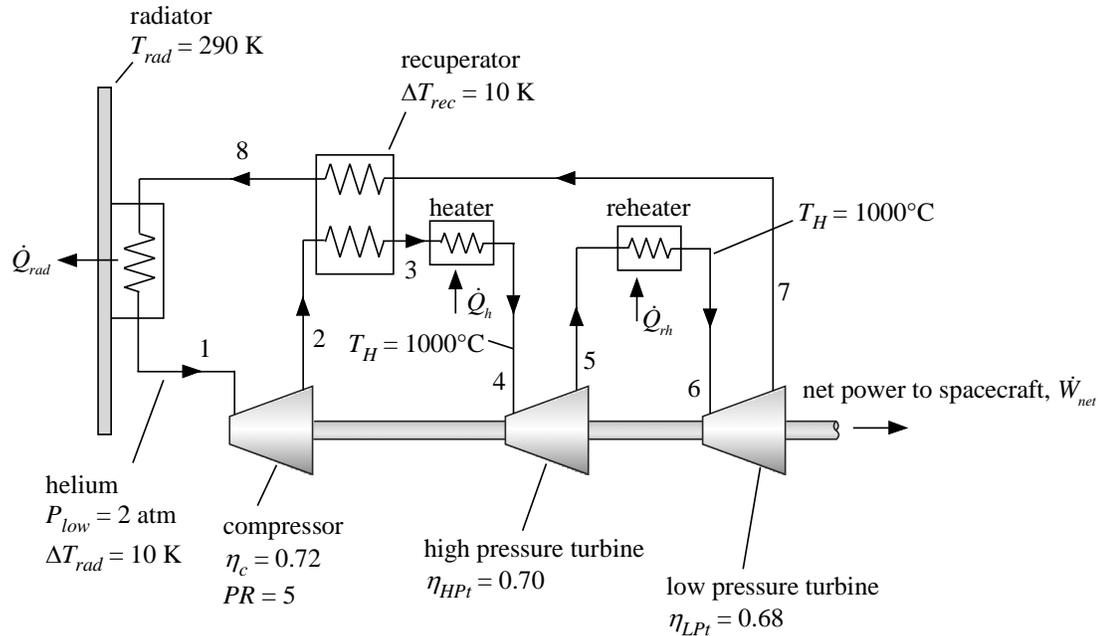

Figure 8.B-1: Gas turbine engine power by RTGs.
8.B-1 Space borne power systems often utilize radioisotope thermoelectric generators (RTGs) to produce power. RTGs release heat due to the radioactive decay of an isotope like plutonium-238. The half-life of plutonium-238 is about 90 years; therefore, the RTG produces heat at approximately a constant rate during the duration of the mission. The heat from an RTG is typically converted to electricity using a thermoelectric power production system because it has no moving parts and is therefore very reliable. However, the efficiency of such systems is very low (3-7%). Therefore, you are examining the alternative power production system shown in Figure 8.B-1.